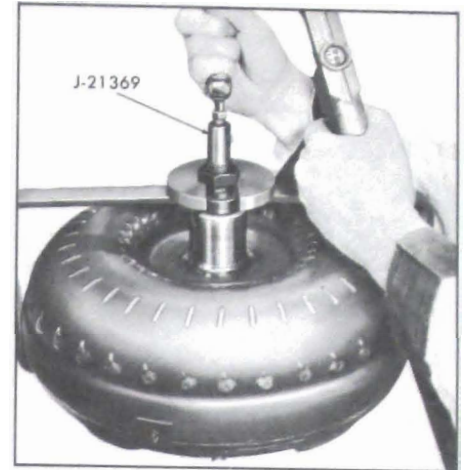

Figure 5-672
1. Check convertor for leaks as follows: (See Figure 5-672.)